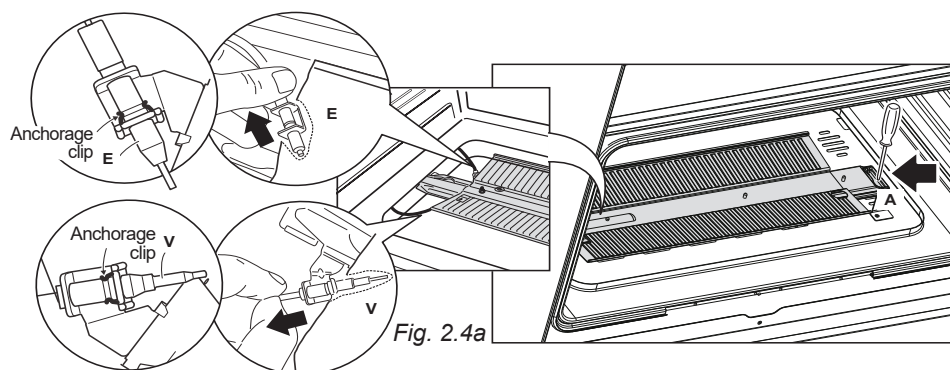

Fig. 2.4a
- Gently unlock, from the burner, the safety valve probe “V” and the ignition electrode “E” (as indicated in fig. 2.4a). Take care not to damage the probe and the ignition electrode.
- Unscrew and remove the burner securing screw “A” (fig. 2.4a).
**IMPORTANT: Pay special attention to replace correctly the safety valve probe “V” and the ignition electrode “E” as per figure 2.4a. Check the correct operation of the safety valve and the ignition electrode.**